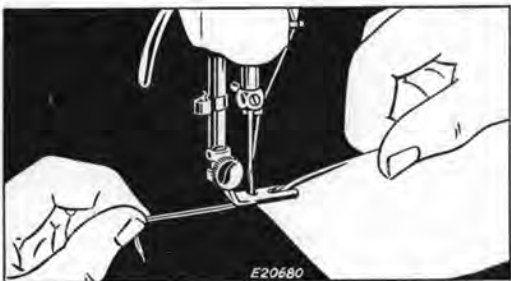

FIG. 36. STARTING HEM AT VERY END OF MATERIAL.
- (1) Fold edge of material twice, about $\frac{1}{8}$ inch each time, for a distance of about two inches. Crease folds.
- (2) Lay about three inches of needle and bobbin threads back under hemmer. Place creased edge of material under hemmer with end of hem directly under needle. Lower hemmer and tack end of hem with two machine stitches.
(3) Raise hemmer. Pull threads and hem slightly from you with left hand, then while holding threads, draw material toward you with right hand into scroll of hemmer until tacked end is caught in hemmer, as shown in **Fig. 36.**